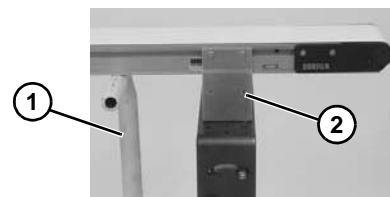

Figure 33
1. Place temporary support stands (**Figure 33, item 1**) at both ends of the conveyor.
2. Remove mounting brackets (**Figure 33, item 2**) from one side of conveyor. (Reverse steps 3 & 4 of “Mounting Brackets” section beginning on page 12.)
1. Ensure temporary support stands (**Figure 33, item 1**) are placed at both ends of the conveyor.